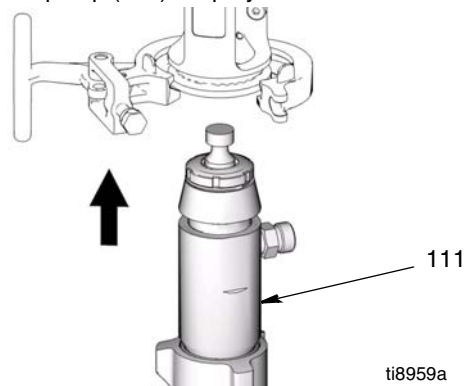

FIG. 14
2. (FIG. 14) Install pump (111) in sprayer.